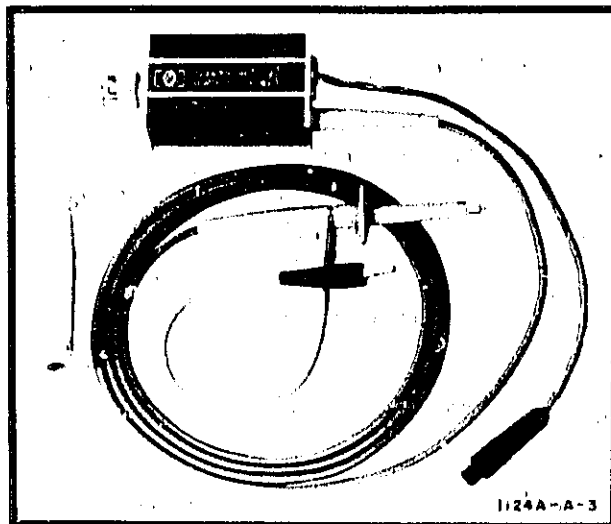

Figure 1. Model 1124A Probe
2. The Model 1124A Probe (Figure 1) provides high voltage, high impedance, general-purpose probing capabilities for 50-ohm input, high-frequency instruments. The probe input RC, 10 megohms shunted by 10 picofarads, prevents circuit loading while a FET (field-effect transistor) circuit provides a bandwidth of dc to 100 MHz. A wide dynamic range, provided in two ranges (X10, X100), allows direct measurements up to 100 volts with either ac or dc coupling. The maximum safe input for the X10 range in the dc-coupled mode is  $\pm 300$  volts (dc plus peak ac) for frequencies below 100 MHz. The X100 range extends the maximum safe input to  $\pm 500$  volts (dc plus peak ac) for frequencies below 100 MHz. The maximum safe input in the ac-coupled mode is the same as for the dc-coupled mode except the dc component of the input signal must not exceed  $\pm 200$  volts.